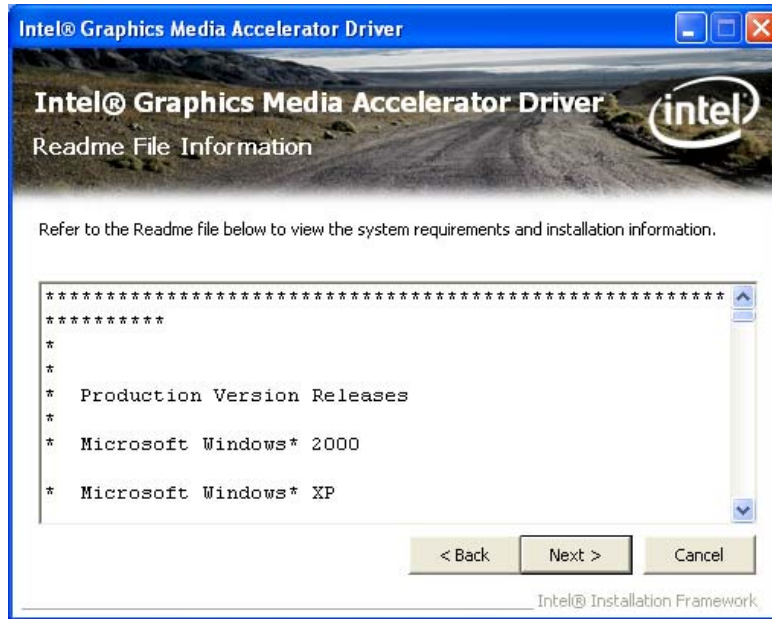

Figure 5-11: Graphics Driver Read Me File
Step 12: The Read Me file in Figure 5-11 appears.